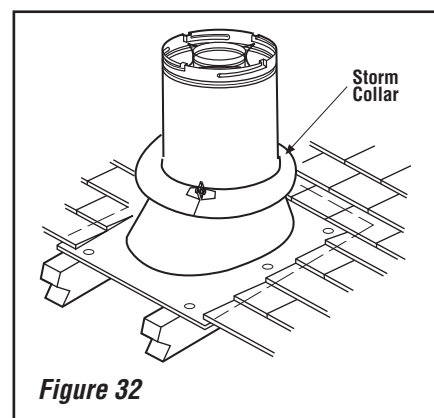

Figure 32
J. Install the storm collar - Install the storm collar, supplied with the flashing, over the vent/flashing joint. See **Figure 32**. Loosen the storm collar screw. Slide collar down until it meets the top of the flashing. Tighten the adjusting screw. Apply non-combustible caulking or mastic around the circumference of the joint to provide a water tight seal.